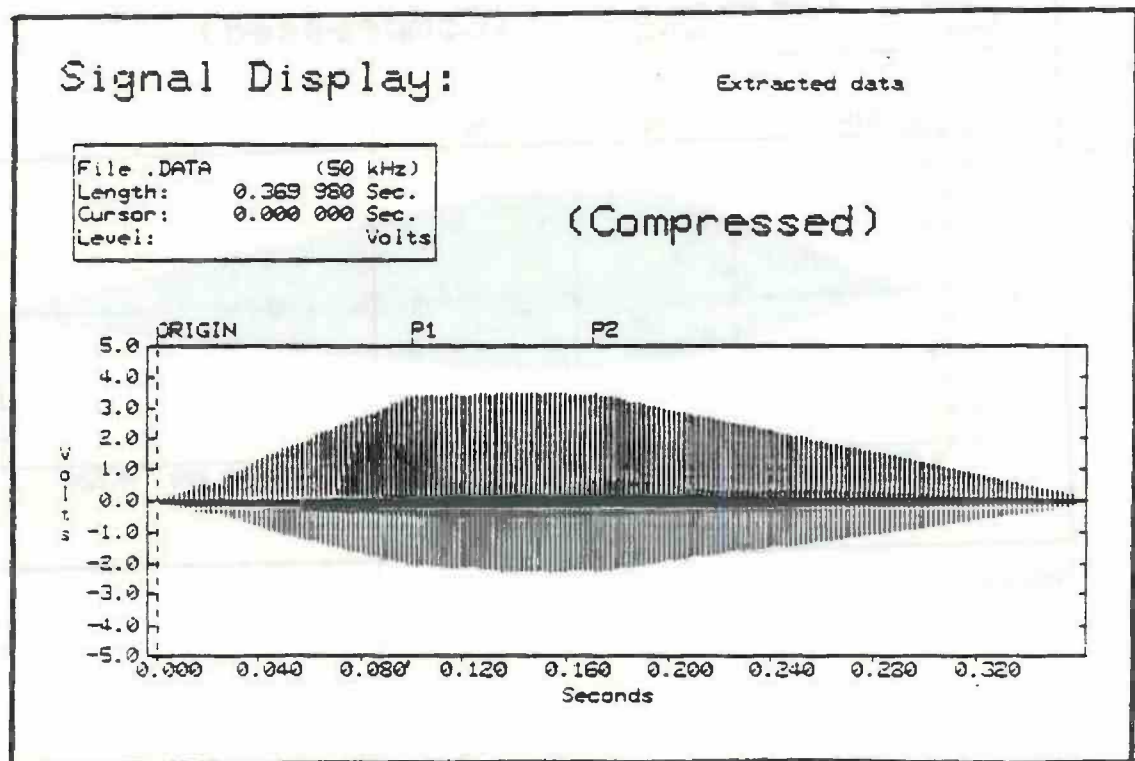

Figure 6.1
6. Now press RETURN for the signal display of the new file. If you press PF4 a few times to condense the file, you should be able to see the clear trapezoidal shape of the waveform envelope (Figure 6.1). The attack is shorter than the decay. The play cursors are placed at the beginning and end of the new file as in the creation of any new file. Note the labels P1 and P2. These are automatically inserted in the new file at points corresponding to the begin and end times that were specified for the old file in the EXTRACT command. The caption "Extracted data" appears on the right of the screen.